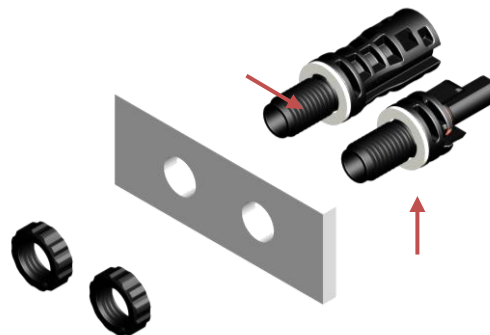

Figure 16
- ✧ 在公/母面板连接器插入钻孔前，请确保已安装防水垫圈，且防水垫圈安装在墙板的外侧(如图 16)
Please ensure seal gasket is located and positioned outside of the mounting surface before the male or female panel connector inserts the drilled hole. (Fig.16)